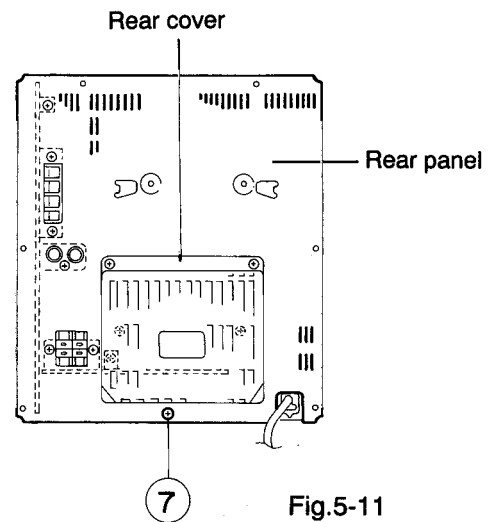

Fig.5-11
5. Remove the screw ⑦ fastening the rear panel and bottom chassis to the rear panel of the main unit.(See Fig. 5-11)